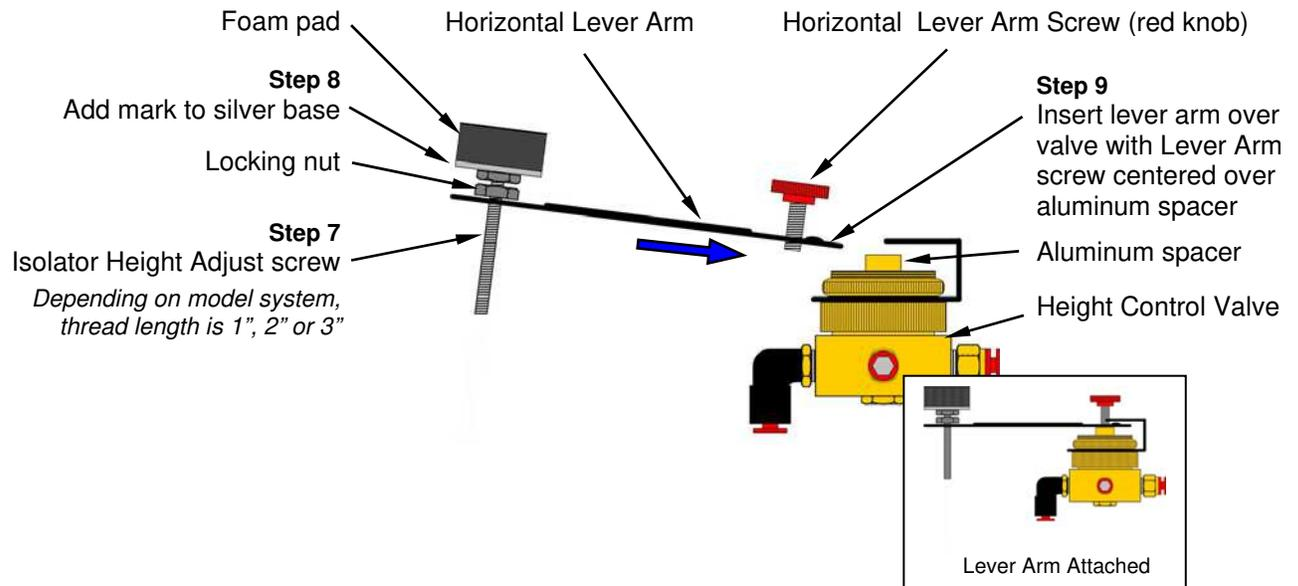

Figure 6 Attaching Horizontal Lever Arm
Step 9 Insert *horizontal lever arm* onto *height control valve* ensuring the end of the **HORIZONTAL LEVER ARM SCREW** fits over the center of the *aluminum spacer* located on the top of the valve as shown in figure 6 above.